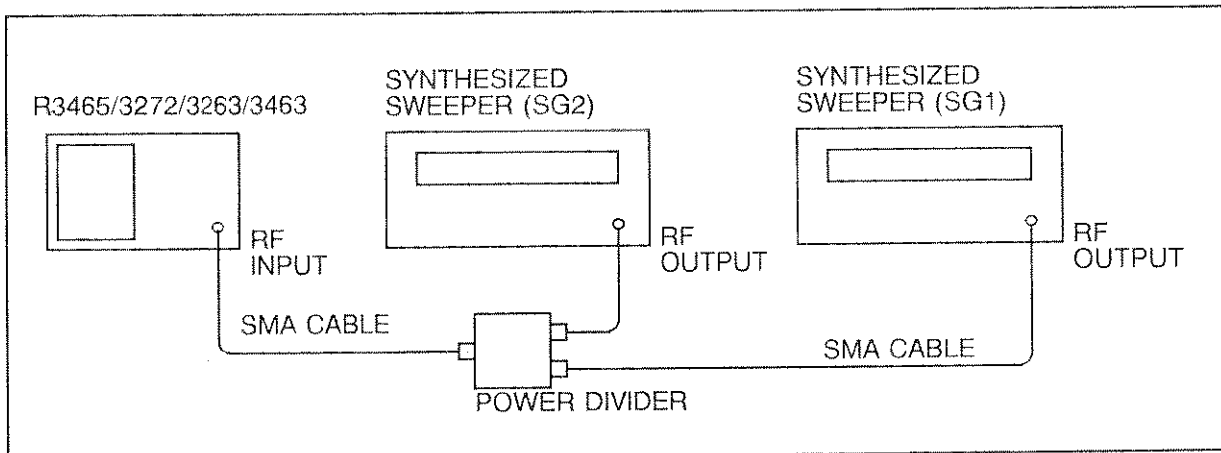

Figure 1-11 Third Order Intermodulation (<2 GHz) Test Setup
(1) Select Divider 1 and connect the units as shown in Figure 1-11.
(2) Press the INSTR PRESET key on each synthesized sweeper. Set each of the synthesized sweeper controls as follows: